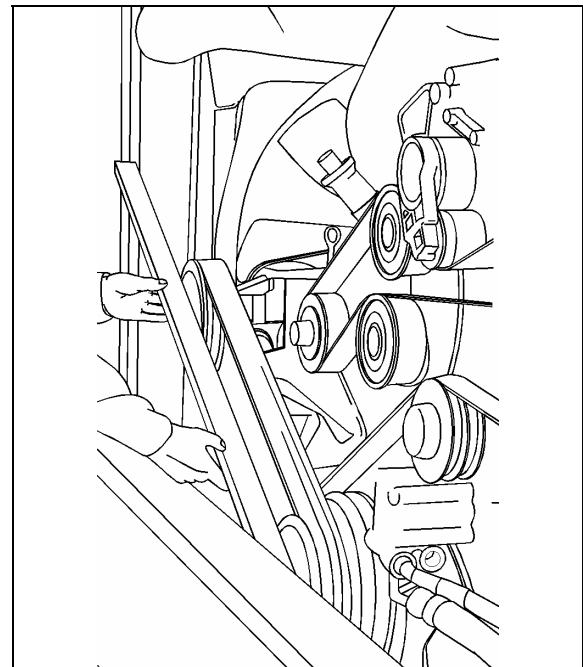

FIGURE 19: PULLEY ALIGNMENT
3. Using a straight edge, align the 3"V" pulley on gearbox central shaft pulley with engine pulley, while taking pulleys outer edge thickness under consideration i.e. 3"V" pulley's outer edge is thicker than that of engine pulley's (Fig. 19).